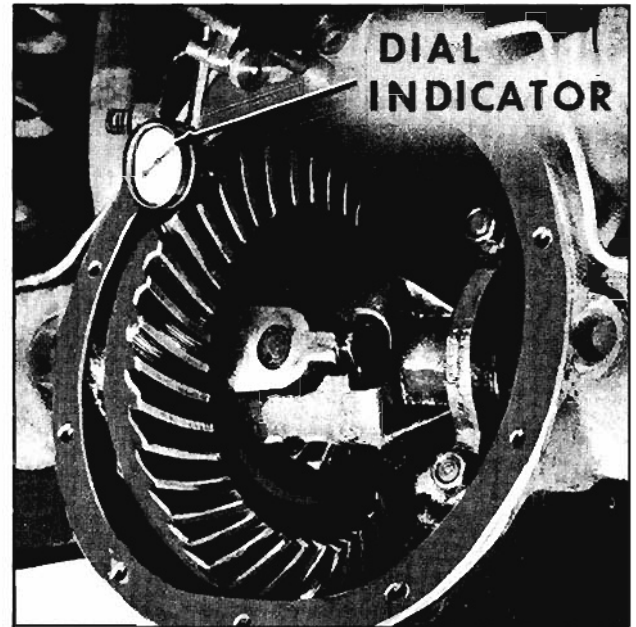

Fig. 10-131 Checking Ring Gear to Pinion Backlash
2. Rotate differential case several times to seat bearings, then mount dial indicator as shown in Fig. 10-131. Use a small button on indicator stem so that contact can be made near heel end of tooth. Set dial indicator so that stem is as nearly as possible in line with gear rotation and perpendicular to tooth angle for accurate backlash reading.